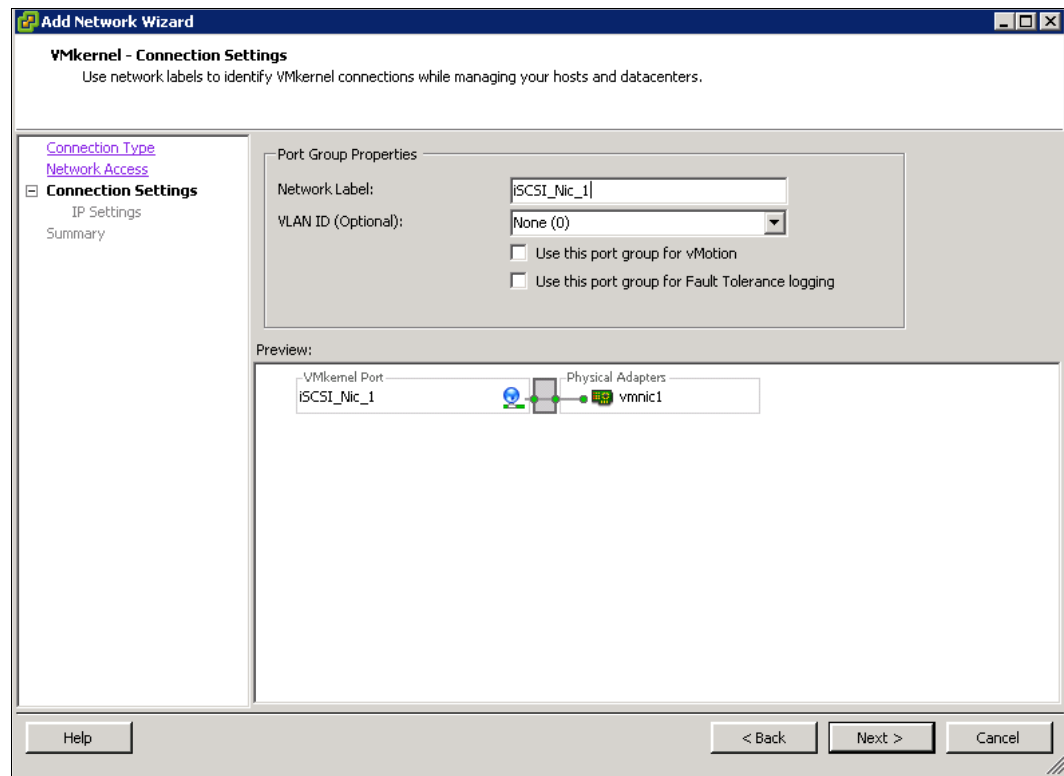

Figure 4-11 VMware: Enter a Network Label
4. Enter a meaningful Network Label and click **Next** (Figure 4-11).